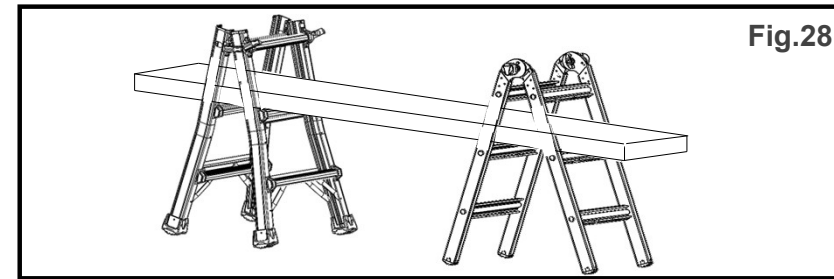

Fig.28
- Position the plank between the two Scaffold Supports so that it is no higher than the second highest rung from the top or the third rung above the ground, whichever is lower. (Fig. 28). This plank position ensures that the standing height is never greater than three times the minimum base section width as required by safety standards. (See Table 1 and Fig. 29)